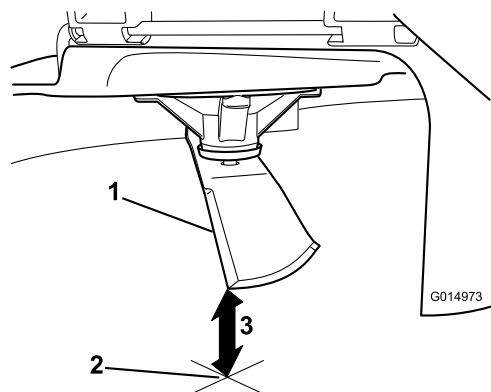

Figure 113
5. Measure from the tip of the blade to the flat surface (Figure 113).